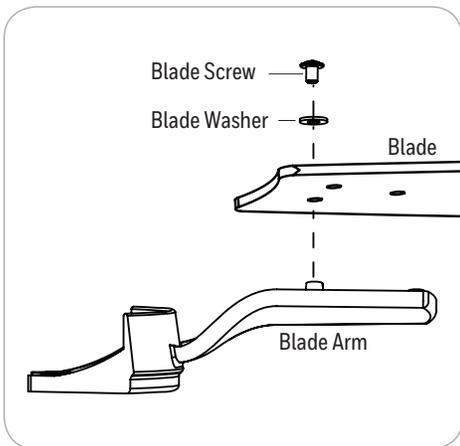

Figure 5.4
- Partially insert the blade screws along with lock washer and blade washer through blade and into the blade arm. Tighten each blade screw starting with the one in the middle (Figure 5.4). Repeat this step for the remaining blades and blade arms (Figure 5.4).